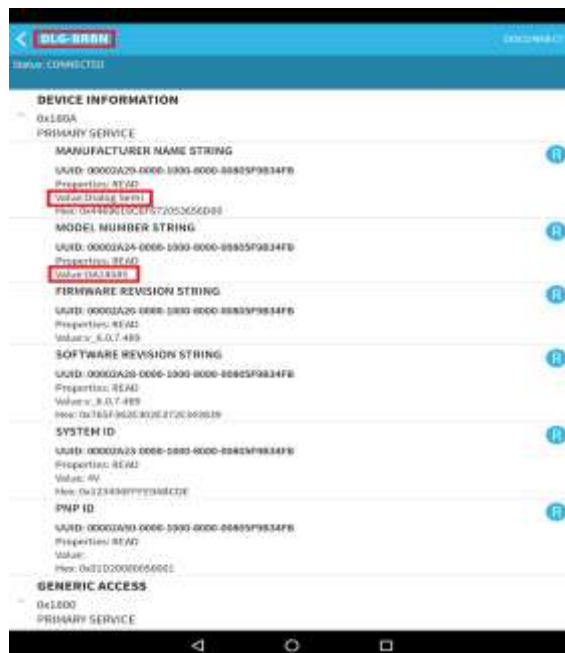

Figure 30: Barebone BLE: Interacting with BLE Application
- Use the Android application BLE Scanner to scan for, and connect to, the **DIALOG-BRBN** app, see **Figure 30**.